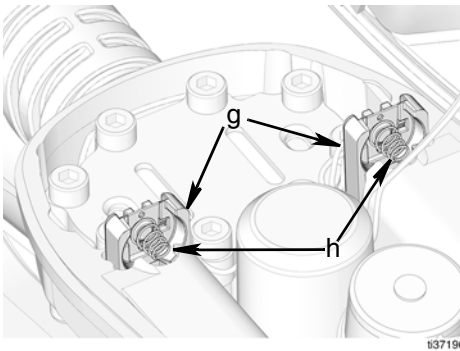

FIG. 10
- The black battery contacts (g) are installed so that the springs (h) are located at the top of the installed contacts (FIG. 10).